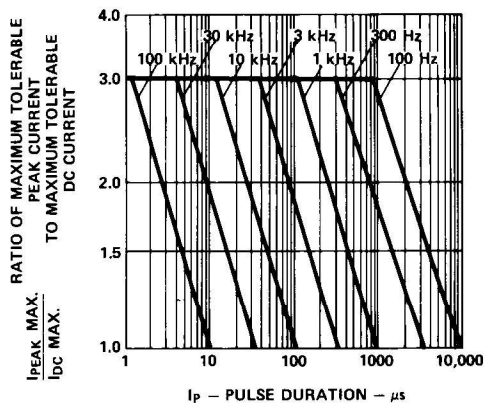

Figure 5. Maximum Tolerable Peak Current vs. Pulse Duration. ($I_{DC\ MAX}$ as per MAX Ratings).
- See Figure 5 to establish pulsed operating conditions.